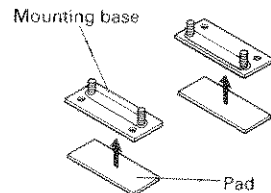

Fig. 2
2. Stick pads on the rear of the mounting base. (Fig. 2)